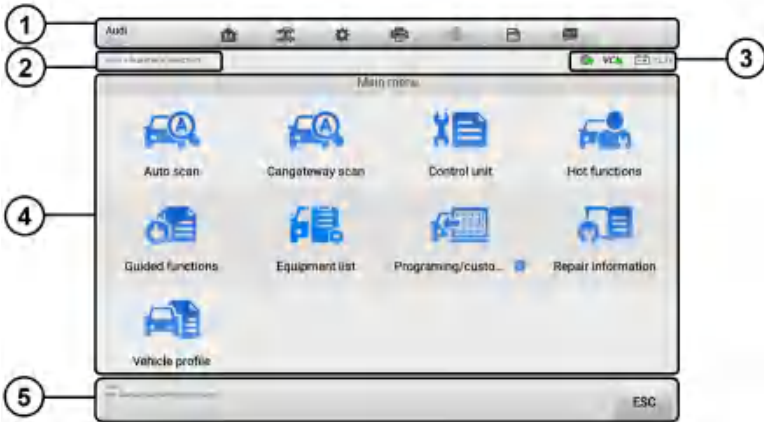

Figure 4-10 Main Menu Screen
1. Tap the **Diagnostics** application button on the MaxiSys Job Menu. Choose the corresponding vehicle information and enter the Main Menu screen. (Figure 4-10)